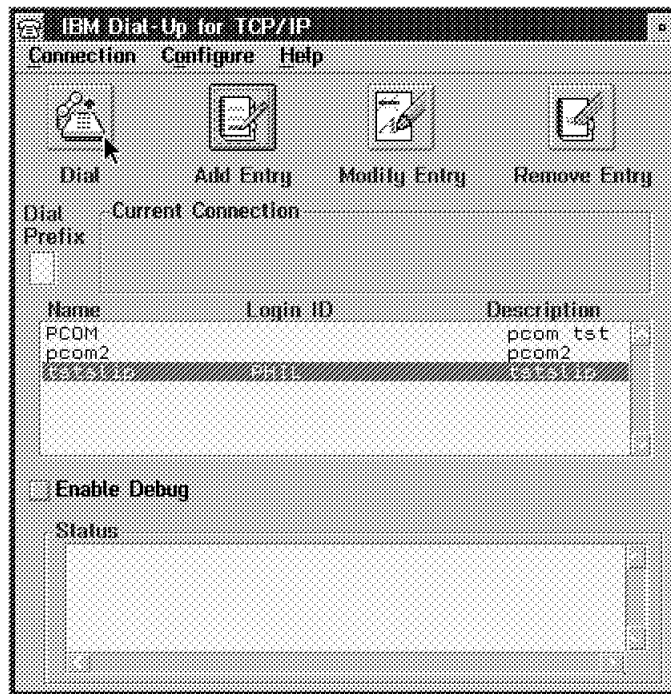

Figure 335. TCP/IP Dial-UP - Ready to receive Incoming Call for SLIP
- First start the SLIP link on the LAN-attached side. To do so click on the **Dial** button in the TCP/IP Dial-Up window while the line of the **tstslip** is selected. The LAN-attached workstation starts the link as defined in 9.2.8, “Configuration of SLIP on the LAN-Attached Workstation” on page 308. It should then be ready to receive an incoming call, as shown in Figure 335.